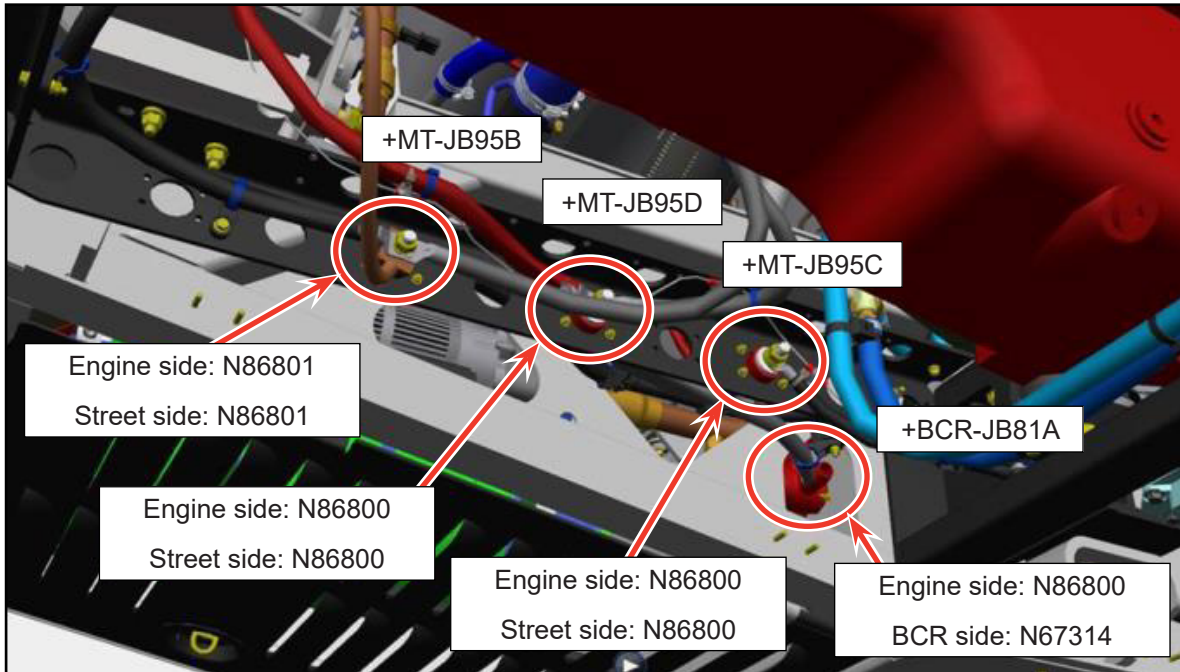

Figure 14 - Corrosion Preventative Products Application Requirements
- 2.20. Depending on which junction block and on which side, different corrosion preventative products are applied, as indicated in the Shop Supplies material list (see Figure 14).